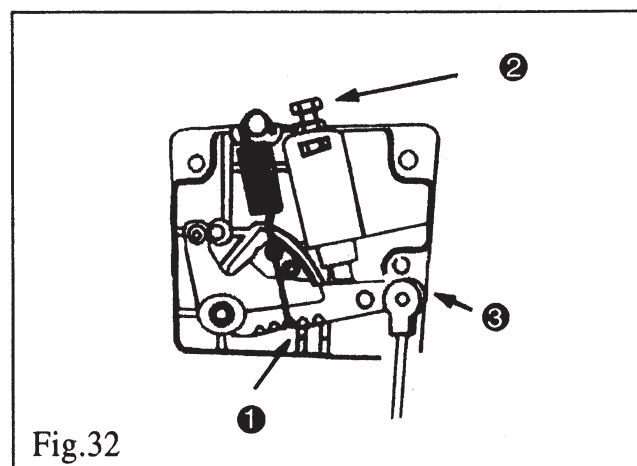

Fig.32
27. PEDAL PRESSURE AND PEDAL STROKE (FIG.32)